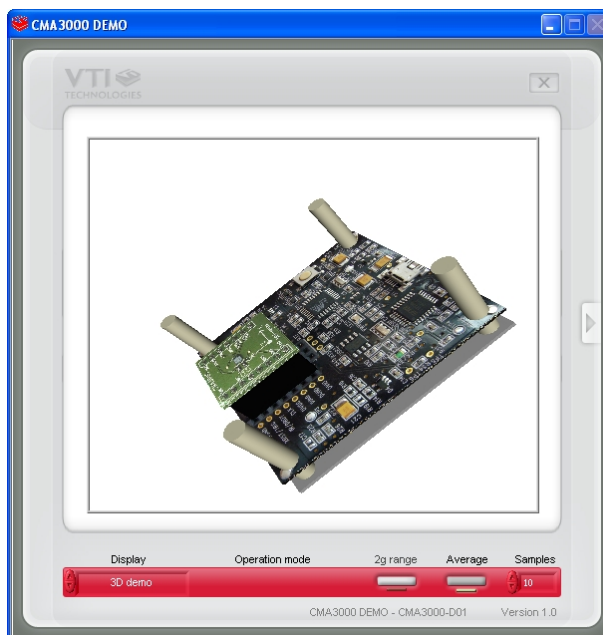

Figure 8. 3D demo display.
**3D demo**, a 3 dimensional demo kit virtual model follows the tilt angles of the real CMA3000 demo kit, see Figure 8. Averaging can be adjusted to smoothen the demo model movements.